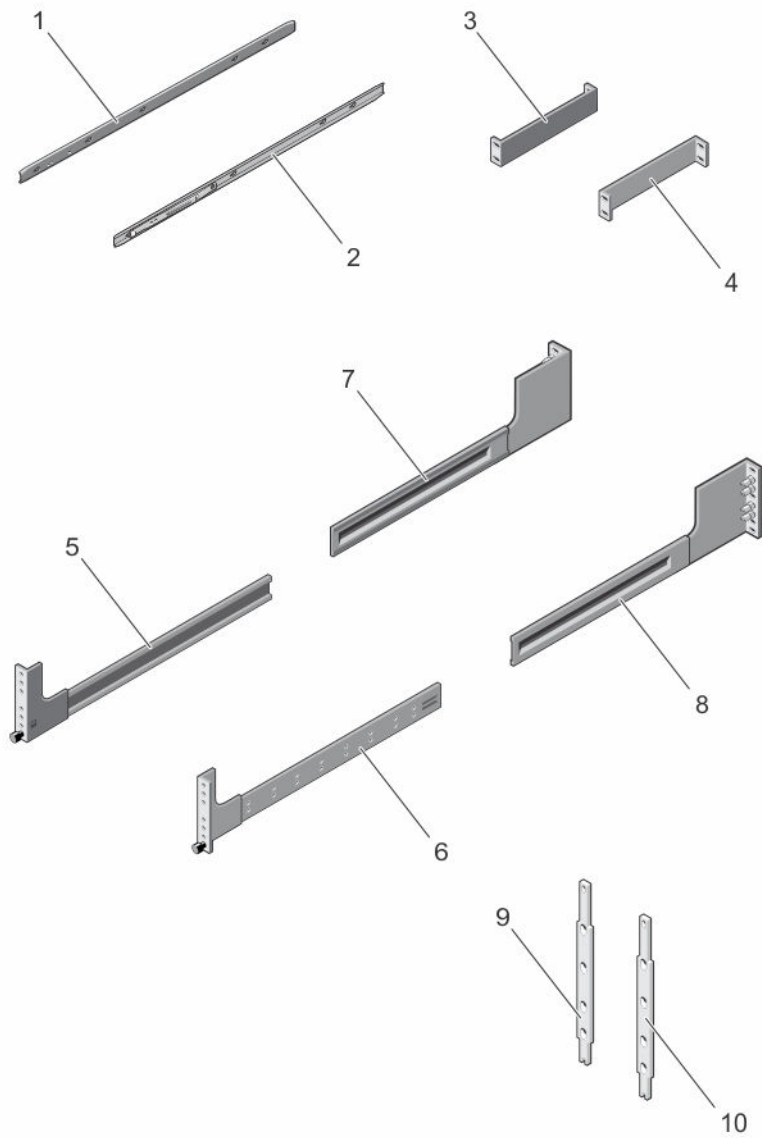

Figure 10. Dell ReadyRails for 2- and 4-Post Racks
- Chassis rails that fit on the left and right sides of a C9010 chassis (items 1 and 2 in Figure 10)
- Left and right rail brackets that fit into the front rails on 2-post racks (items 3 and 4 in Figure 10)
- Front rails for the left and right posts of 2- and 4-post racks (items 5 and 6 in Figure 10)
- Rear rails that fit into the left and right front rails on 4-post racks (items 7 and 8 in Figure 10)
- Two spacers that allow you to secure the chassis flanges flush on the front rack posts (items 9 and 10 in Figure 10)
- a. Remove the front and rear parts of the left 4-post rail (items 5 and 7 in Figure 10) from the Dell ReadyRails kit and slide the parts together. (The front and rear parts of a rail may arrive pre-assembled.)
- Remove the two chassis rails (items 1 and 2 in Figure 10) from the Dell ReadyRails kit.
3. Attach a spacer (items 9 and 10 Figure 10) to the back of each chassis flange. The spacers allow the flanges to be attached flush to each rack post.
1. Locate the front rack rails in the Dell ReadyRails kit (items 5 and 6 in Figure 10).
- For a 2-post rack, take out the left and right rail brackets (items 3 and 4 in Figure 10) and slide them into the front rails.
- For a 4-post rack, take out the left and right rear rails (items 7 and 8 in Figure 10) and slide them into the front rails. (The front and rear parts of a rail may arrive pre-assembled.)